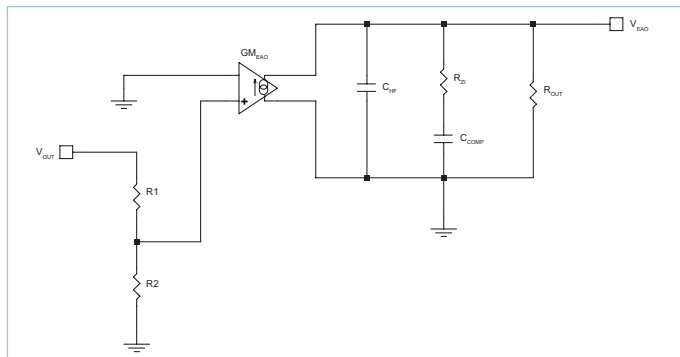
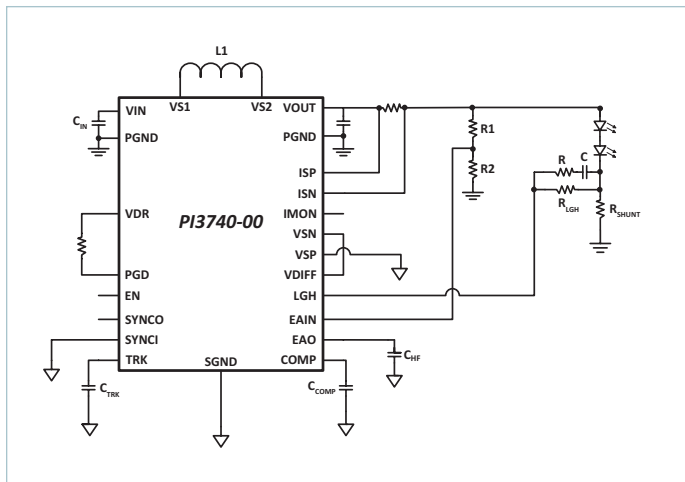

Figure 58 — PI3740-00 Error Amplifier Model
Figure 59 — Lighting Configuration Using CC Mode
When the amplifier is configured as shown in Figure 58, it forms a Type II amplifier configuration with poles and zeros determined by:
Figure 58 shows a small signal model of the modulator gain when using the application circuit shown in Figure 59 with two high current LED's in series. R_{LED} is the series combination of the AC resistance of each LED. R_{SHUNT} is used to sense the current through the LED string. Equation (16) defines the pole of transfer function.
When regulating in CC mode, it will be necessary to add a compensating zero to avoid loss of phase margin caused by the integrator stage of the LGH amplifier. A simple approach is to add a series R–C in parallel with R_{LGHT} as shown in the lighting application diagram in Figure 59. The capacitor will be chosen to work with R_{LGHT} to add a zero approximately 1.2kHz before the zero provided by the GM_{LGHT} transfer function (the trans-conductance stage of the LGH amplifier). The external added resistor will form a high frequency pole to roll the gain off at higher frequency. Note that it is very important to understand the AC resistance of the LED's that are being used. Please consult the LED manufacturer for details. For a series string, you should add the individual LED resistances and combine them into one lumped value to simplify the analysis.